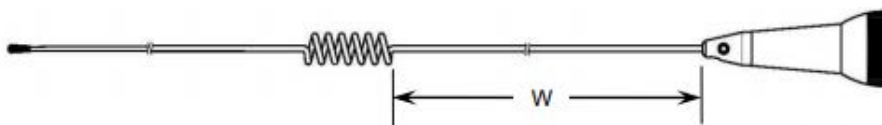

Figure 4
2. Note: Ensure the whip is located and completely seated inside the antenna whip adapter. The Tuned Length "W" is determined by measuring the distance between the top of the antenna adapter-spring and the bottom of the antenna phasing coil as shown in **Figure 4**. With the whip removed from the adapter, the cut length dimension will be approximately 1" (25mm) longer than the Tuned Length "W".
5. Cut the antenna whip as required to establish the specified Tuned Length "W" as shown in Figure 4.